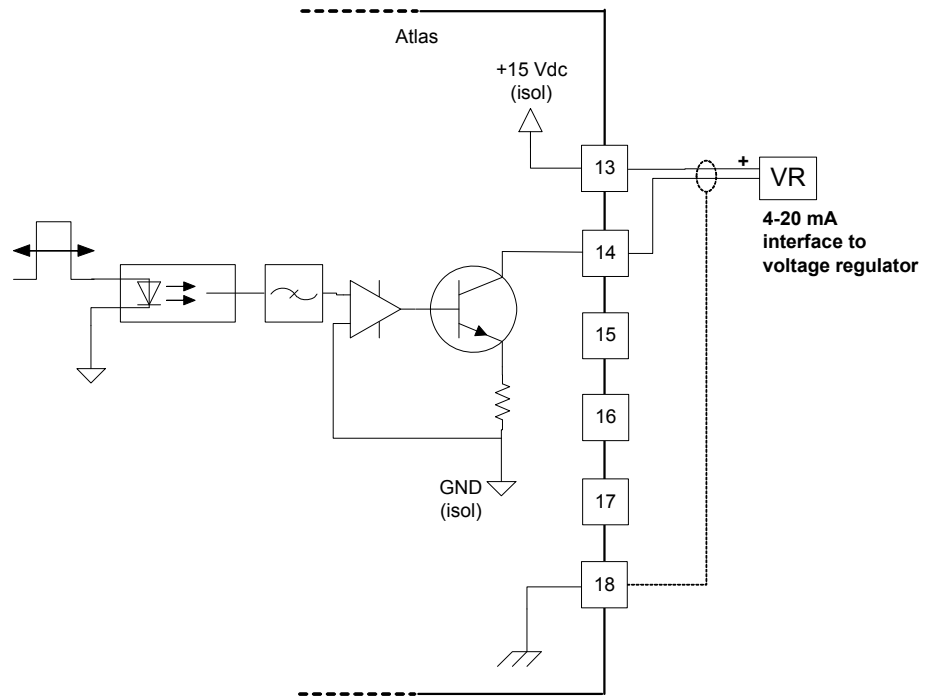

Figure 8-13. Wiring Example—Voltage Bias Output Interface
- Refer to Figures 8-13 and 8-14 for Voltage Bias Output wiring.